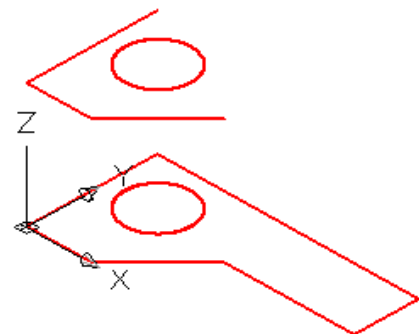

Figure Step 8
Step 8 Enter the COPY command shown below. Copy the three lines and the circle 4 units in the positive Z direction as shown in Figure Step 8.
(Select the three lines and the circle as shown in Figure Step 8.)